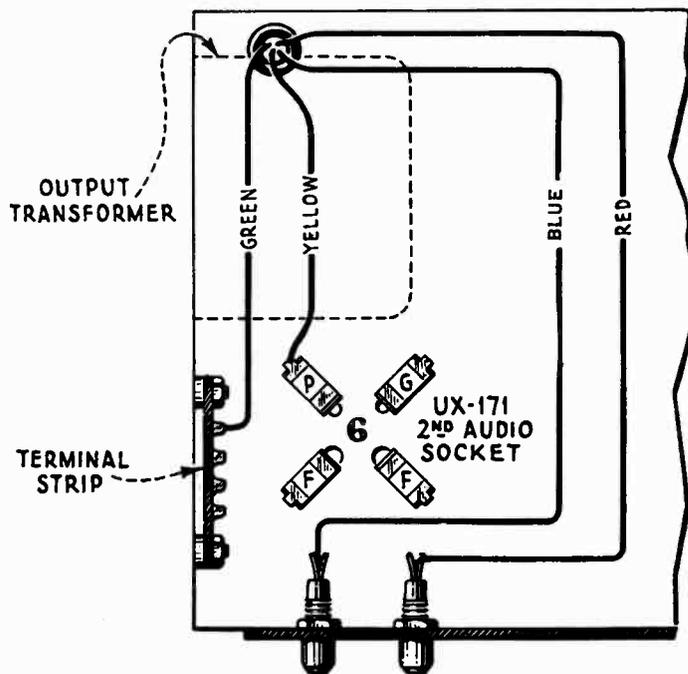

Figure 23—Output transformer connections.
5. Push the four leads from the transformer through the frame. Fasten bracket to chassis with screws previously removed. Connect leads as indicated by tags, previously attached to proper connection. These connections are shown in Figure 23.
(8) REPLACING CONDENSER DRIVE CABLE